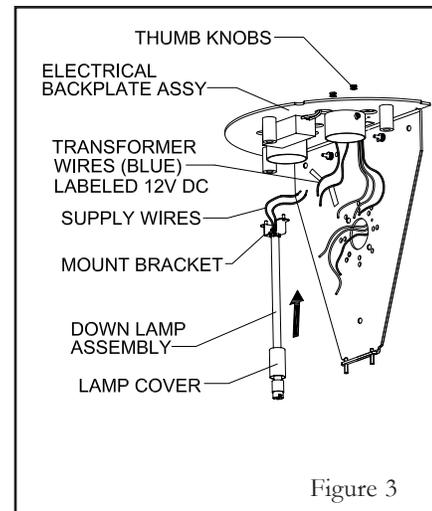

Figure 3
Step 3 Install the backplate assembly onto the wall and over the outlet box. Route the wires through the center of the backplate. Next install the downlamp stem assembly to the upper portion of the backplate and secure into place with thumb knobs. (See Figure 3)
Step 4 Use connectors and attach the blue low voltage transformer power leads, labeled 12 volts DC, to the downlamp wires. Next connect the primary leads from the outlet box. Connect the black fixture wire to the hot supply wire (typically black); connect the white fixture wire to the neutral supply wire (typically white); connect the copper fixture wire to the ground wire or ground terminal at the outlet box. Push field wiring connections into the junction box. (See Figure 3)